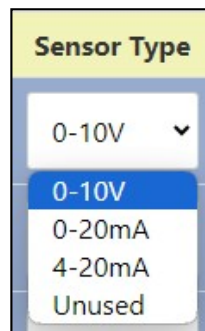

Figure 46: Dropdown Menu for Selecting Analog Sensor Type
- 1. Sensor Type:** Choose the sensor type from the dropdown menu, as illustrated in Fig 46. Selecting "Unused" will disable all parameters for that row.